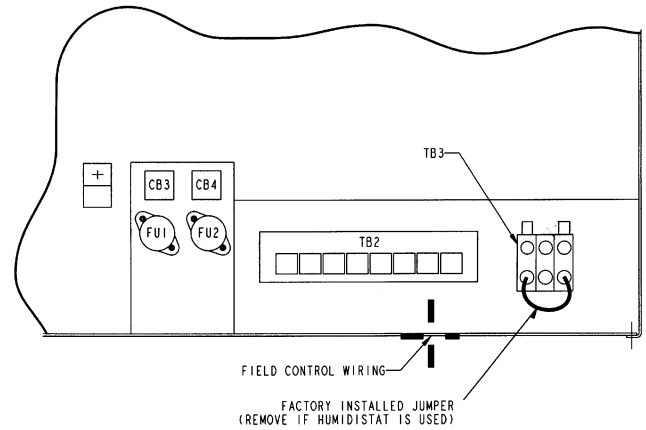
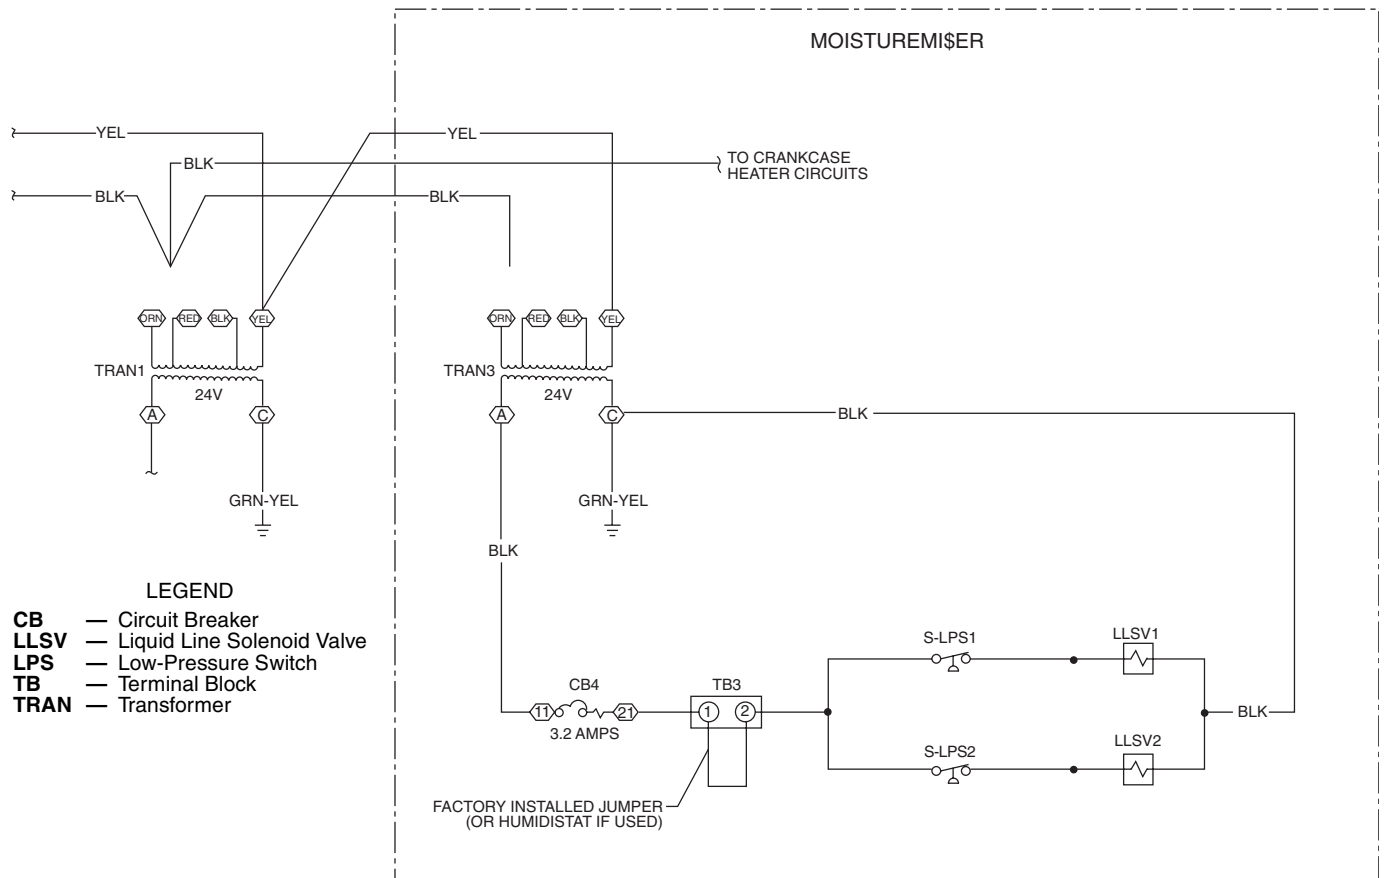
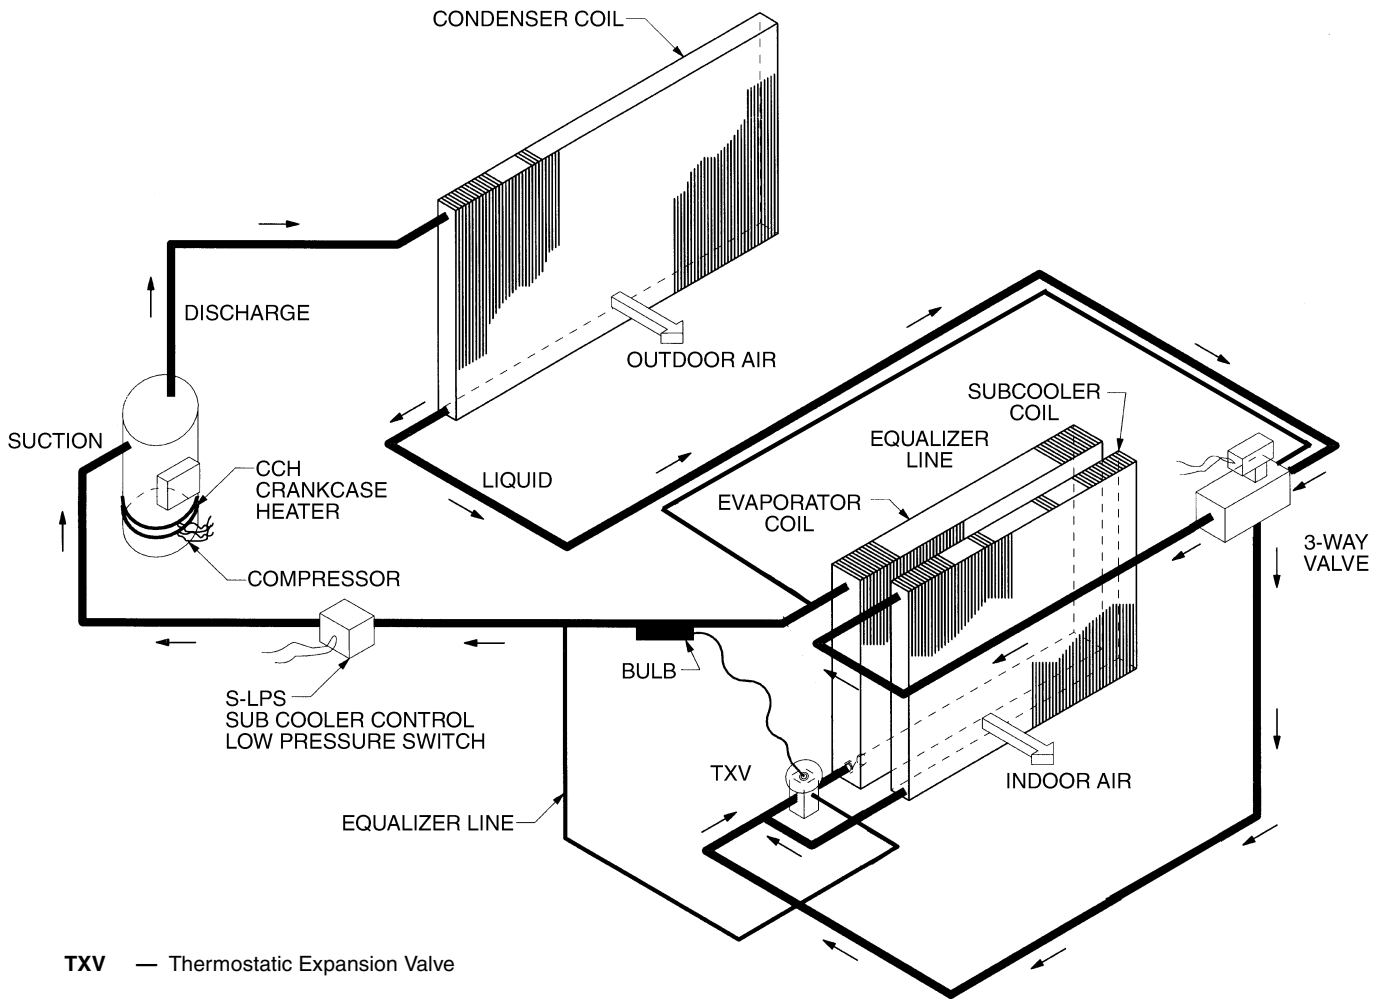

Fig. 45 — Typical MoistureMi\$er Dehumidification Package Control Box
Fig. 44 — Typical MoistureMi\$er Dehumidification Package Humidistat Wiring Schematic (460 V Unit Shown)
Fig. 46 — MoistureMiSer™ Dehumidification Operation Diagram
2. Route thermostat cable or equivalent single leads of colored wire from Humidistat terminals through conduit in unit to the low voltage connection on the 2-pole terminal strip (TB3) as shown in Fig. 44 and Fig. 45. See Fig. 46 for operational diagram.